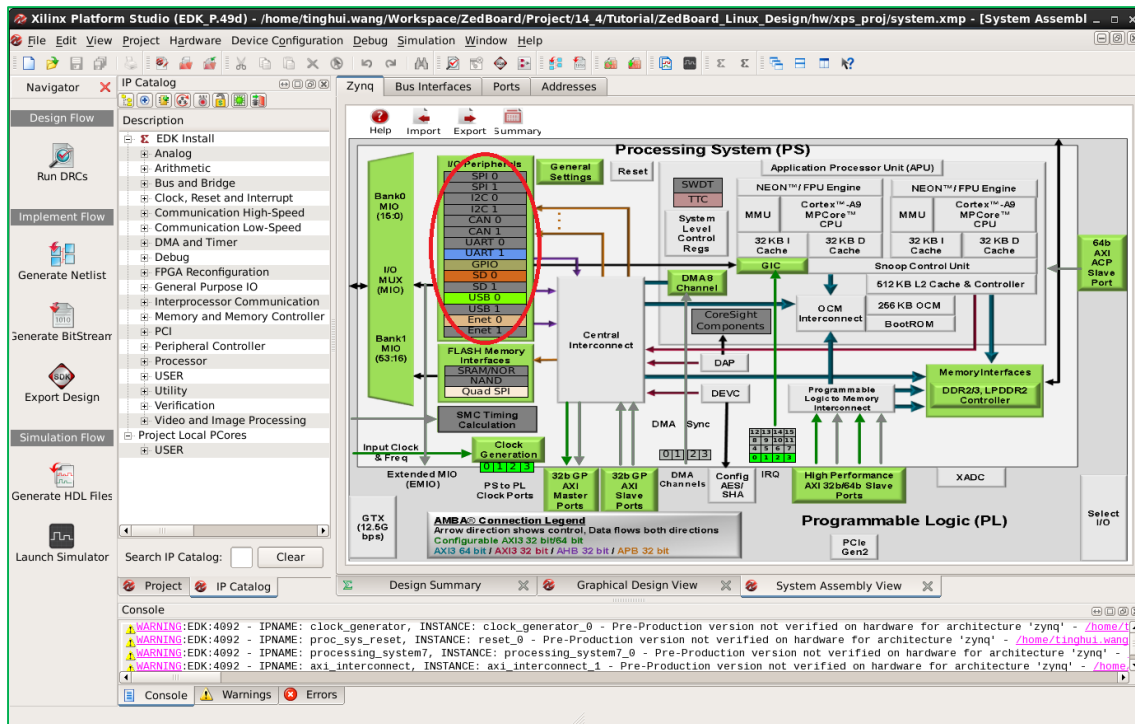

Figure 3. Xilinx Platform Studio GUI
- I-2** Source Xilinx ISE 14.4 settings and open the design with **Xilinx Platform Studio (XPS)**. See Example 2. You will see the **XPS** window pop up as shown in Figure 3.
I-3 We are going to detach LEDs from the GPIO core in the PS first. So, we need to click on the **I/O Peripherals** (red circle in Figure 3), and a **Zynq PS MIO Configuration** window will pop up as shown in Figure 4. We are going to change the width of GPIO on **EMIO** interface from **60** to **52** to remove 8 LED pins, as shown in the red circle in Figure 4. However, we also need to refresh the change in the **External Ports** section of the **Ports** tab. So, click **Ports** tab, expand processing\_system7\_0, expand **(IO\_IF) GPIO\_0**, disconnect it from **External Ports**, and connect it to **External Ports** again, and remove the **\_pin** from the name (as shown in Figure 5). We will handle the modification of external pin location configuration (**ucf** file) in later steps.